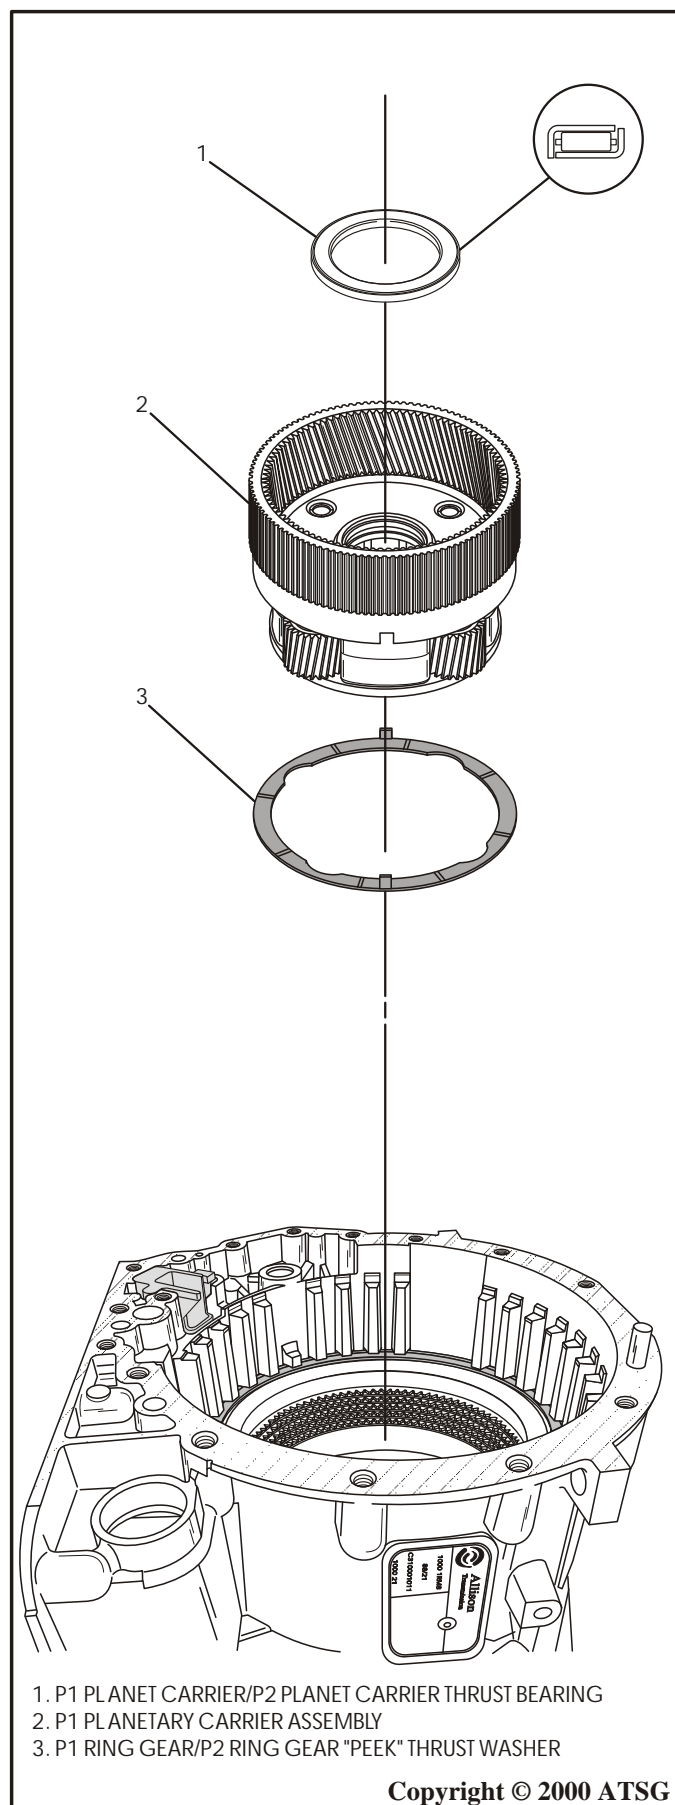

Figure 65
46. Remove the P1 planetary carrier assembly by lifting up with a slight twisting motion. Refer to Figure 65.
Note: *The P1 planetary carrier/P2 planetary carrier thrust bearing, and the P2 ring gear to P1 ring gear thrust washer will be removed with the carrier assembly (See Figure 65).*